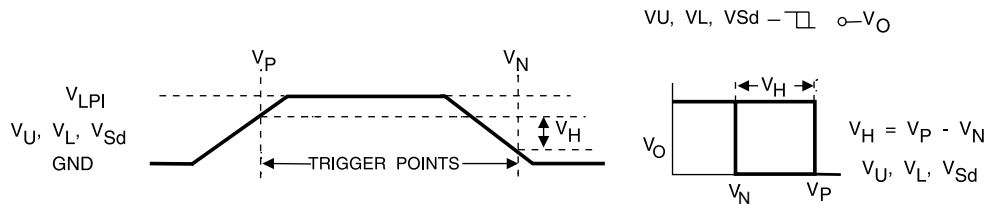

FIGURE 7. HYSTERESIS DEFINITION AND CHARACTERISTICS
The PWR-82331/33 uses Schmitt triggered digital inputs (with hysteresis) to ensure high-noise immunity. The trigger switches at different points for positive and negative going signals. The hysteresis voltage (V_H) is the difference between the positive going voltage (V_P) and the negative going voltage (V_N) (see FIGURE 7). The digital inputs have programmable logic levels, which allows the hybrid to be used with different types of commutation logic with an input voltage range of +5 V to +15 V, such as TTL or CMOS logic. The PWR-82331/33 internal power supply generates a +15 Vdc (V_{LPO}) on pin 15. This output can only be used to power the internal digital circuitry within the hybrid. **Do not use this +15 V output to power any circuitry external to the hybrid.** Pin 16 is the logic power input (V_{LPI}) for the digital circuitry inside the hybrid. **A 0.01 mF, +50 V ceramic capacitor must be placed between this pin (16) and GND as close to the hybrid as possible.** When using +15 V control circuitry, the logic power input (pin 16) can be connected directly to logic power output (pin 15) of the hybrid. There is no need for additional external power supply.